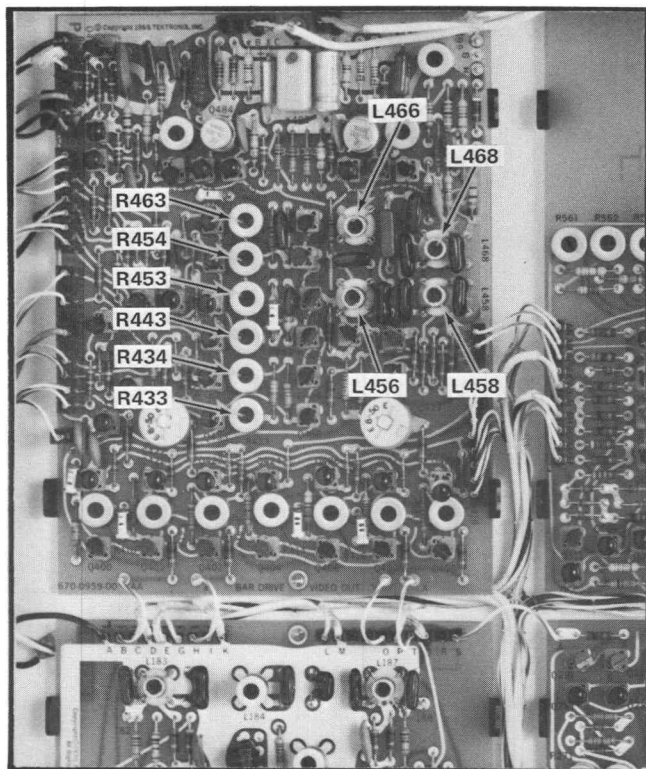

Fig. 6-14. Bar Drive and Video Out board adjustment locations.
c. ADJUST—L458 and L468, (see Fig. 6-14) for optimum square corners on the display with aberrations of 2% or less.
d. Set the V2 Volts control for 53.6 mV then ADJUST—R433 (see Fig. 6-14) for a black level amplitude of 53.6 mV.
b. ADJUST—L456 and L466 (see Fig. 6-14) for the optimum square corner on leading edge of display.